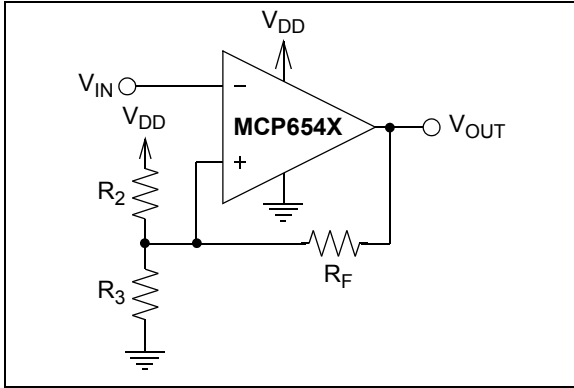
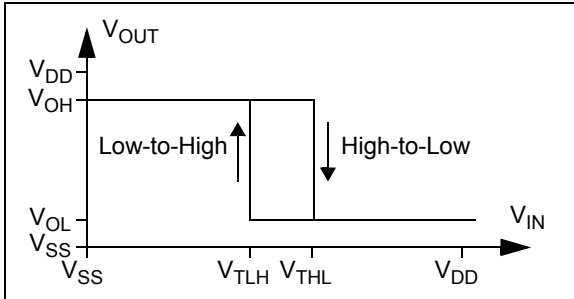
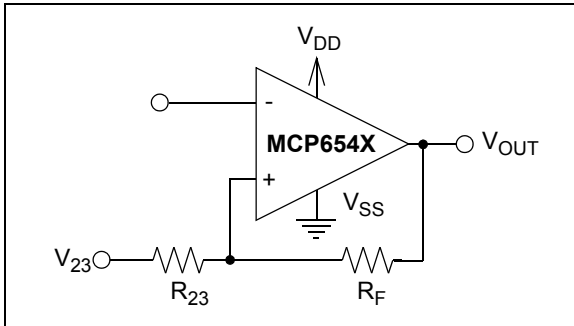

FIGURE 4-6: Inverting Circuit With Hysteresis.
FIGURE 4-7: Hysteresis Diagram for the Inverting Circuit.
FIGURE 4-8: Thevenin Equivalent Circuit.
Figure 4-6 shows an inverting circuit for single-supply using three resistors. The resulting hysteresis diagram is shown in Figure 4-7.
In order to determine the trip voltages ($V_{T_{LH}}$ and $V_{T_{TLH}}$) for the circuit shown in Figure 4-6, R_2 and R_3 can be simplified to the Thevenin equivalent circuit with respect to V_{DD} , as shown in Figure 4-8.
1. Inverting Configuration (Figures 4-6 and 4-9):